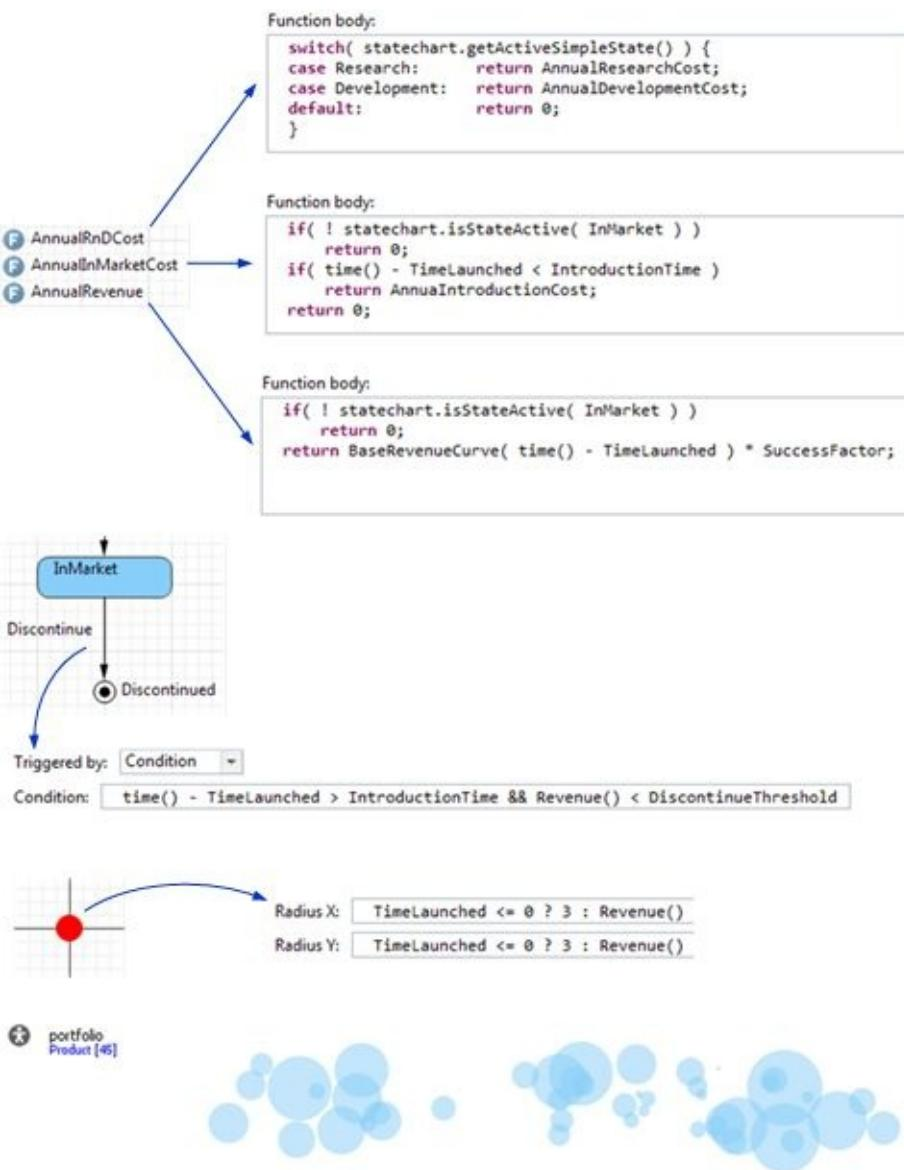

Figure 6.28 Functions calculating cost and revenue. Updated statechart and animation
19. Run the model and watch how the value of *Revenue* changes over time, see Figure 6.28.